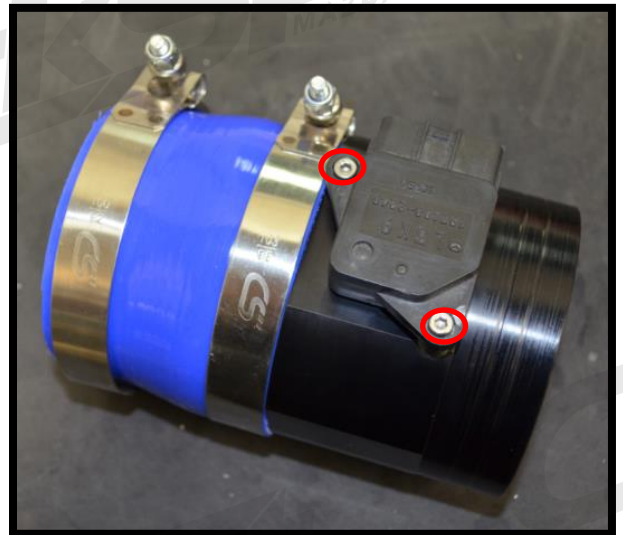

Figure 6b
- b) Install the MAF sensor into the CorkSport 89mm MAF housing and secure it with the two (2) supplied 3mm hex screws (Figure 6b circled in red).
- c) Place the 3.5" to 3.75" silicone reducer, along with the 92-100mm and 95-103mm supplied T-bolt clamps onto the MAF. Only tighten the MAF clamp at this time (Figure 6b). Make sure that the "AIRFLOW" sign points toward the silicone coupler.